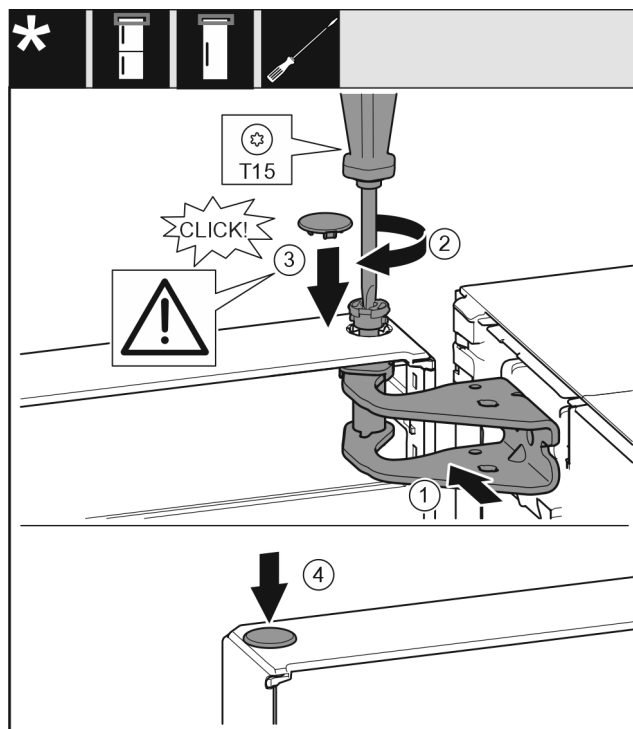

Fig. 21
- Align the top door with the opening in the swap bearing block Fig. 21 (1).
- Insert the bolt Fig. 21 (2) and use screwdriver to tighten it.
- Insert the cover Fig. 21 (3).
- Check that the cover Fig. 21 (3) is resting on the door.
- Insert the cover Fig. 21 (4).